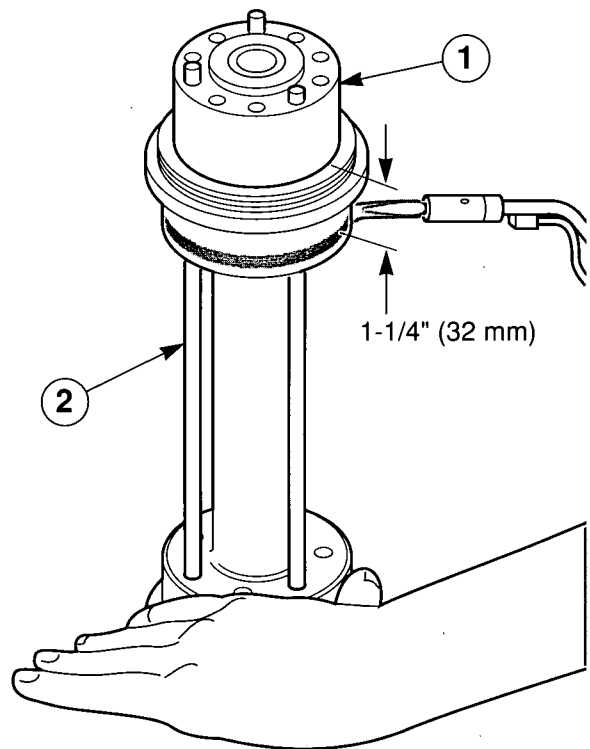

Figure 50 — Installing remaining bearing block. (1) Bearing Block, (2) Installation Rod.
8. **Turn spindle over and insert installation rods** into three (3) somewhat evenly spaced holes.
10. **Rotate spindle slowly by hand** while applying heat with a propane torch 1-1/4" (32 mm) below top of spindle (Figure 50). Spindle will expand from heat and bearing block will drop in. Remove heat.